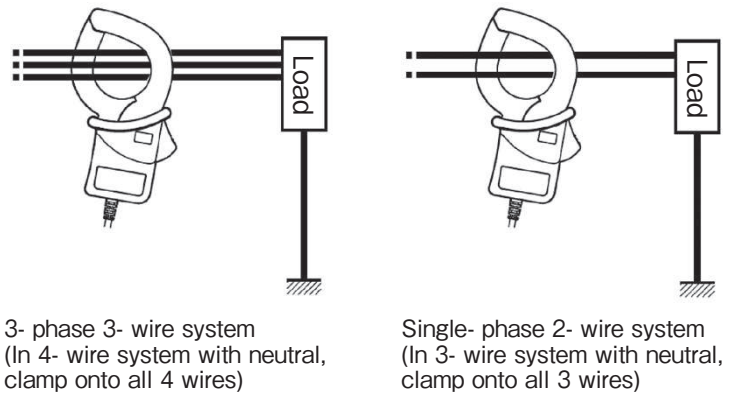

Fig.1 Measuring out of balance leakage current
- (1) Measuring out of balance leakage current (See Fig.1): Clamp onto all conductors except a grounded wire.